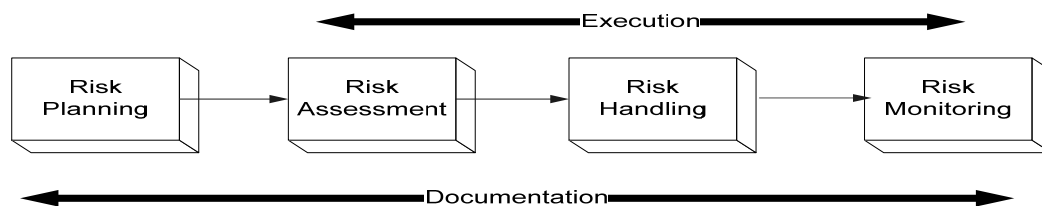

Figure 1. Execution Phase of Risk Management Process
3.1.1 This section describes the risk management process and provides an overview of the Risk Management Methodology as outlined in Figure 1. Risk management is defined as the act or practice of controlling risk. It includes risk planning, assessing risk areas, developing risk-handling options, monitoring risks to determine how risks have changed, and documenting the overall risk management program. The Execution phase of the Project begins after planning and proceeds through monitoring.